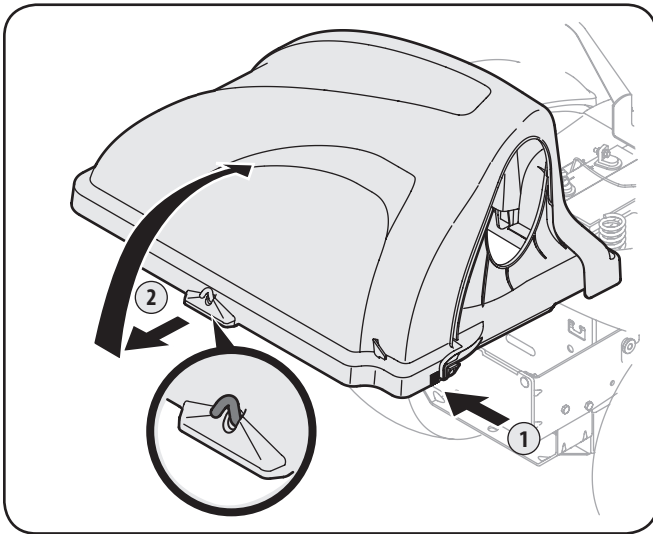

Figure 6-1
1. Open the grass catcher hood by pushing in on the rear, right-side tab with your right hand, as seen in 1 of Figure 6-1, and lifting the cover with your left hand in the center rear of the bagger cover, 2.